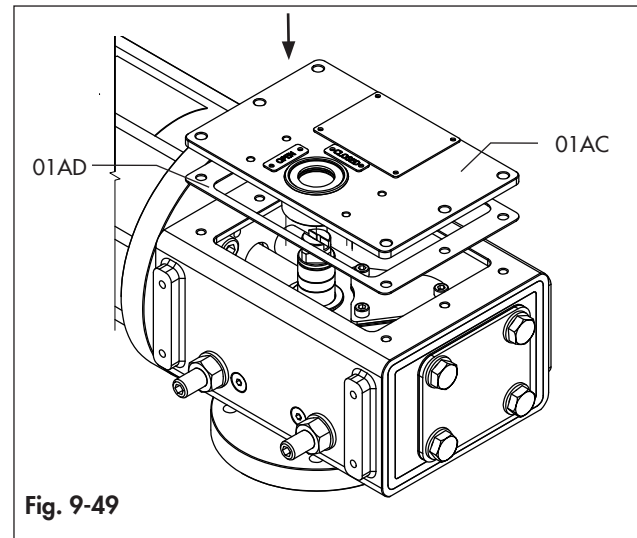

Fig. 9-49
- Place the cover (01AC) and the gasket (01AD) (Fig. 9-49).